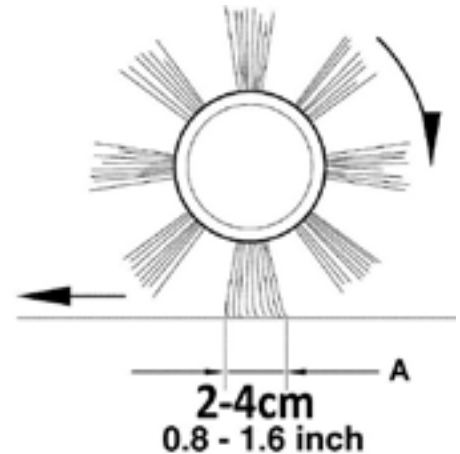

Figure1
- Check that the main brush print (A, Fig. 1), along its length is 0.8 to 1.6 in (2 to 4 cm) wide.